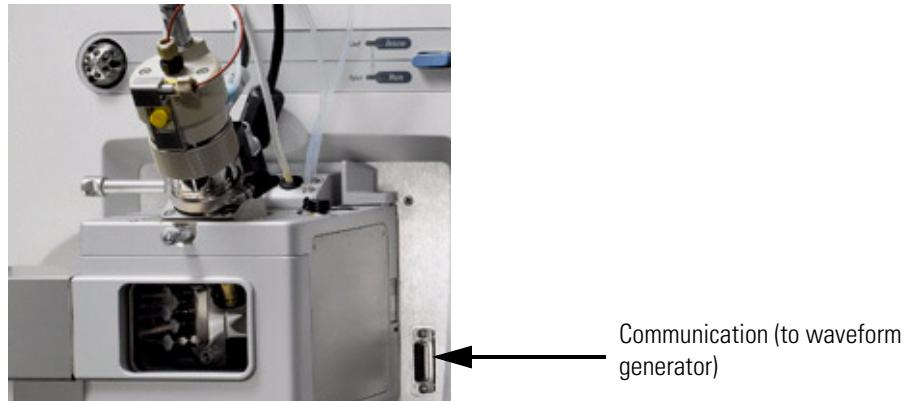
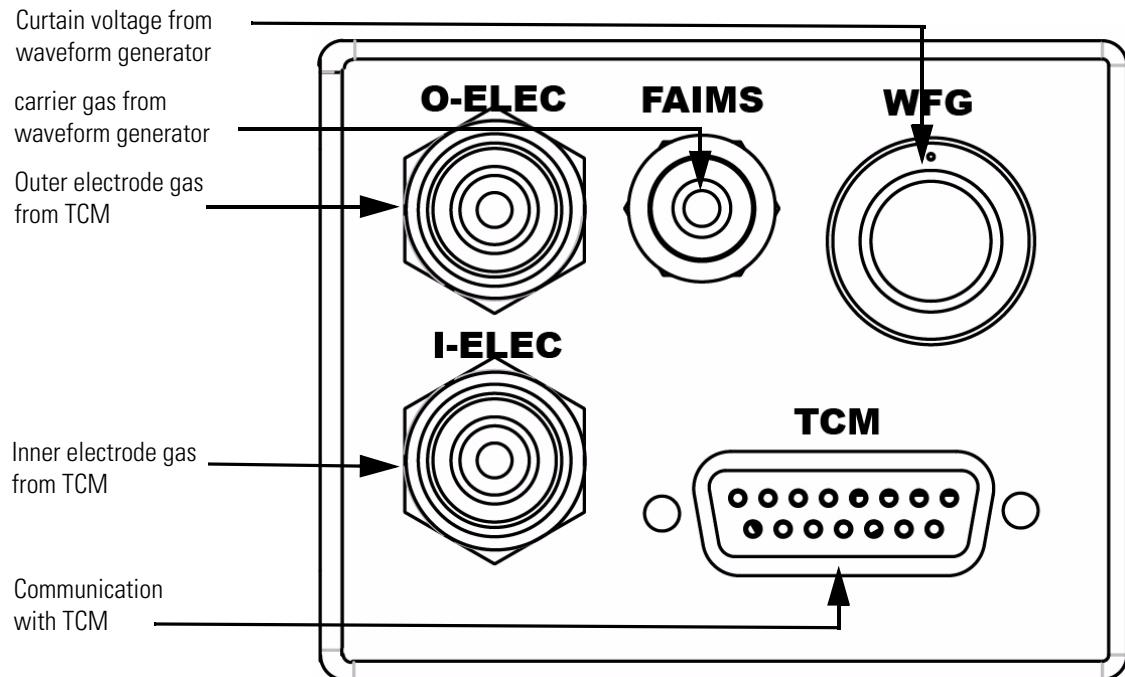

Figure 52. 15-pin connector on LTQ
Figure 54. Connection panel on the FAIMS interface heater box
Carrier gasses are supplied to the FAIMS system through three quick-disconnect fittings on the connection panel of the waveform generator. These inlet gas ports are labeled He, N₂, and CO₂. Figure 52 shows the connection panel of the FAIMS waveform generator.
Figure 54 shows the connection panel on the heater box of the FAIMS interface.
3. Using 1/4 in. OD tubing, connect the O-ELEC ports on the temperature control module and FAIMS interface heater box, as Figure 54 shows.
1. Connect one end of the Fischer cable to the BIAS/CURTAIN VOLTAGE connector on the connection panel of the FAIMS waveform generator (Figure 52) and the other end to the WFG connector on the FAIMS interface heater box, as Figure 54 shows.
2. Connect the heater cable between the HEATER connector on the temperature control module, as Figure 53 shows, and the TCM connector on the FAIMS interface heater box, as Figure 54 shows.
3. Connect the interlock cable between the MS CONTROL connector on the waveform generator, as Figure 52 shows, and the connector on the Ion Max housing.